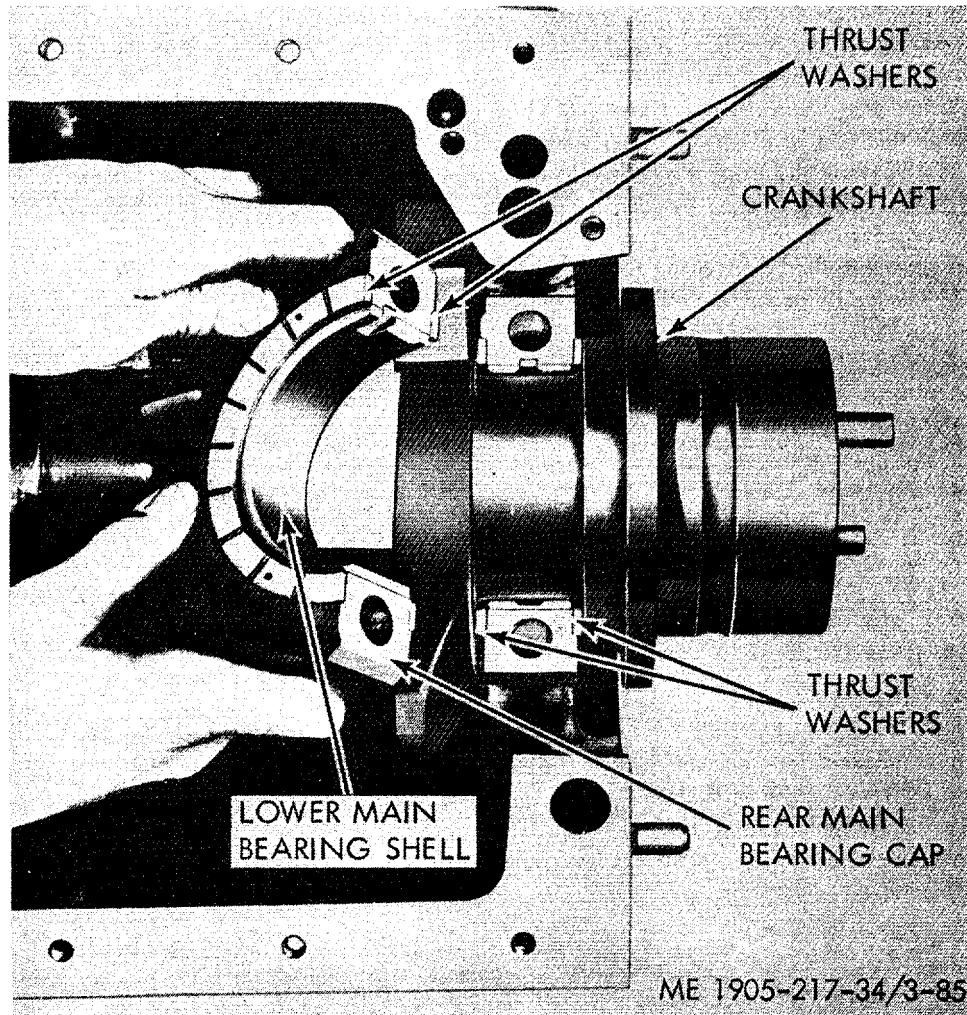

Figure 3-85. Rear main bearing thrust washer and mounting.
(4) Two-piece thrust washers (fig. 3-85) are used each side of the rear main bearing. The lower halves of these washers will be removed when removing the rear main bearing cap. The removal of bearing cap by pushing one end of washer with a small rod, thus forcing washer around and out on opposite side of bearing.
(c) Slide the upper halves of the thrust washers in place in the grooves as shown in figure 3-85; then assemble the lower halves over the dowel pins in the bearing cap.